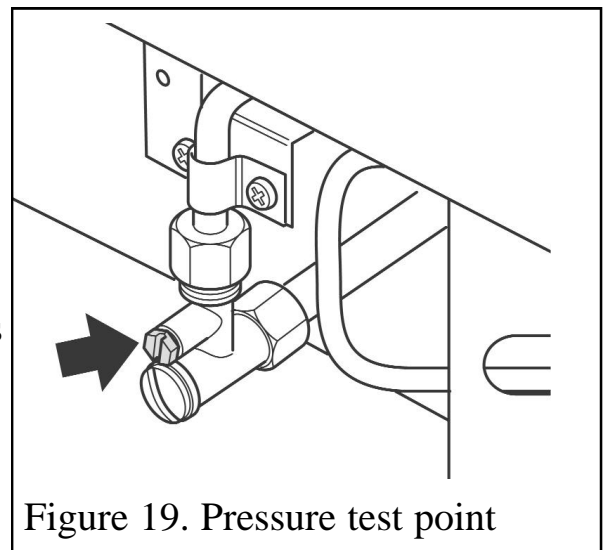

Figure 19. Pressure test point
1. Check the inlet pressure by fitting a pressure gauge at the test point. The test point is on the inlet 'T' connector (See figure 19). Check the pressure